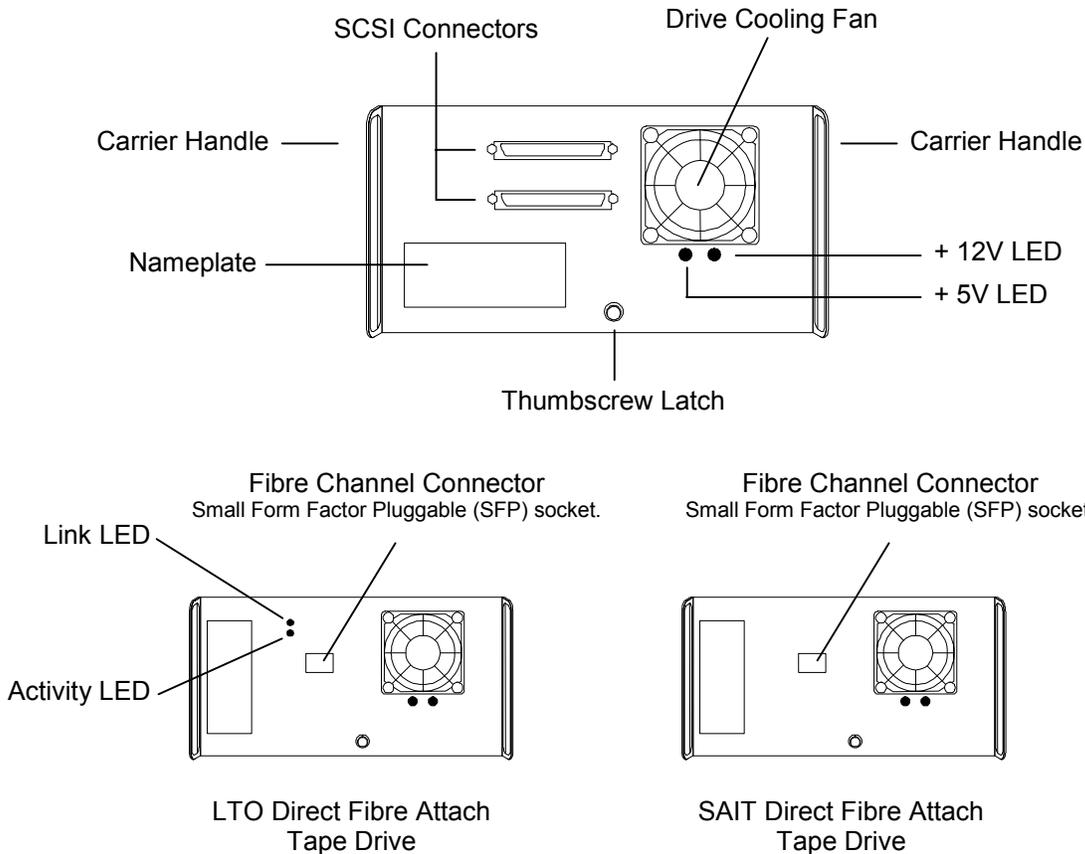

Figure 5-18 Tape Drive Assembly-Rear View
Measuring the distance across the width of a Door Lever will determine which Tape Drive Assembly it matches. The DLT 4000 lever measures 1-¹⁵/₁₆-inches across and the DLT 7000 and 8000 lever is 1-⁹/₁₆-inches (Figure 5-11). Check the Nameplate label on the rear of the Tape Drive Assembly (see Figure 5-18), to determine the tape drive's model number.
8. Turn the Thumbscrew Latch on the Tape Drive Assembly all the way clockwise by hand, until it is finger-tight (Figure 5-18).
9. Pull on a carrier handle to make sure the Tape Drive Assembly is locked in place (Figure 5-18). If the tape drive carrier is not locked in place, turn the Thumbscrew Latch on the Tape Drive Assembly all the way counterclockwise and then gently slide the Tape Drive Assembly all of the way back into the TLS. Once again, turn the Thumbscrew Latch on the Tape Drive Assembly all the way clockwise by hand, until it is finger-tight.